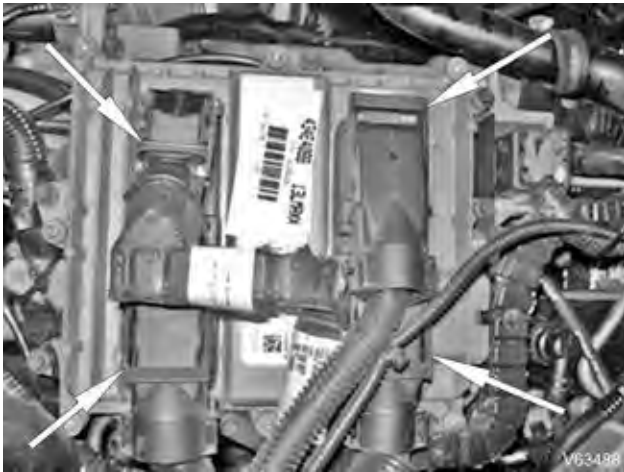

Figure 2. ECM Harness Connector (4)
11. Unlock and disconnect all electrical connectors from Electronic Control Module (ECM) (Figure 2).